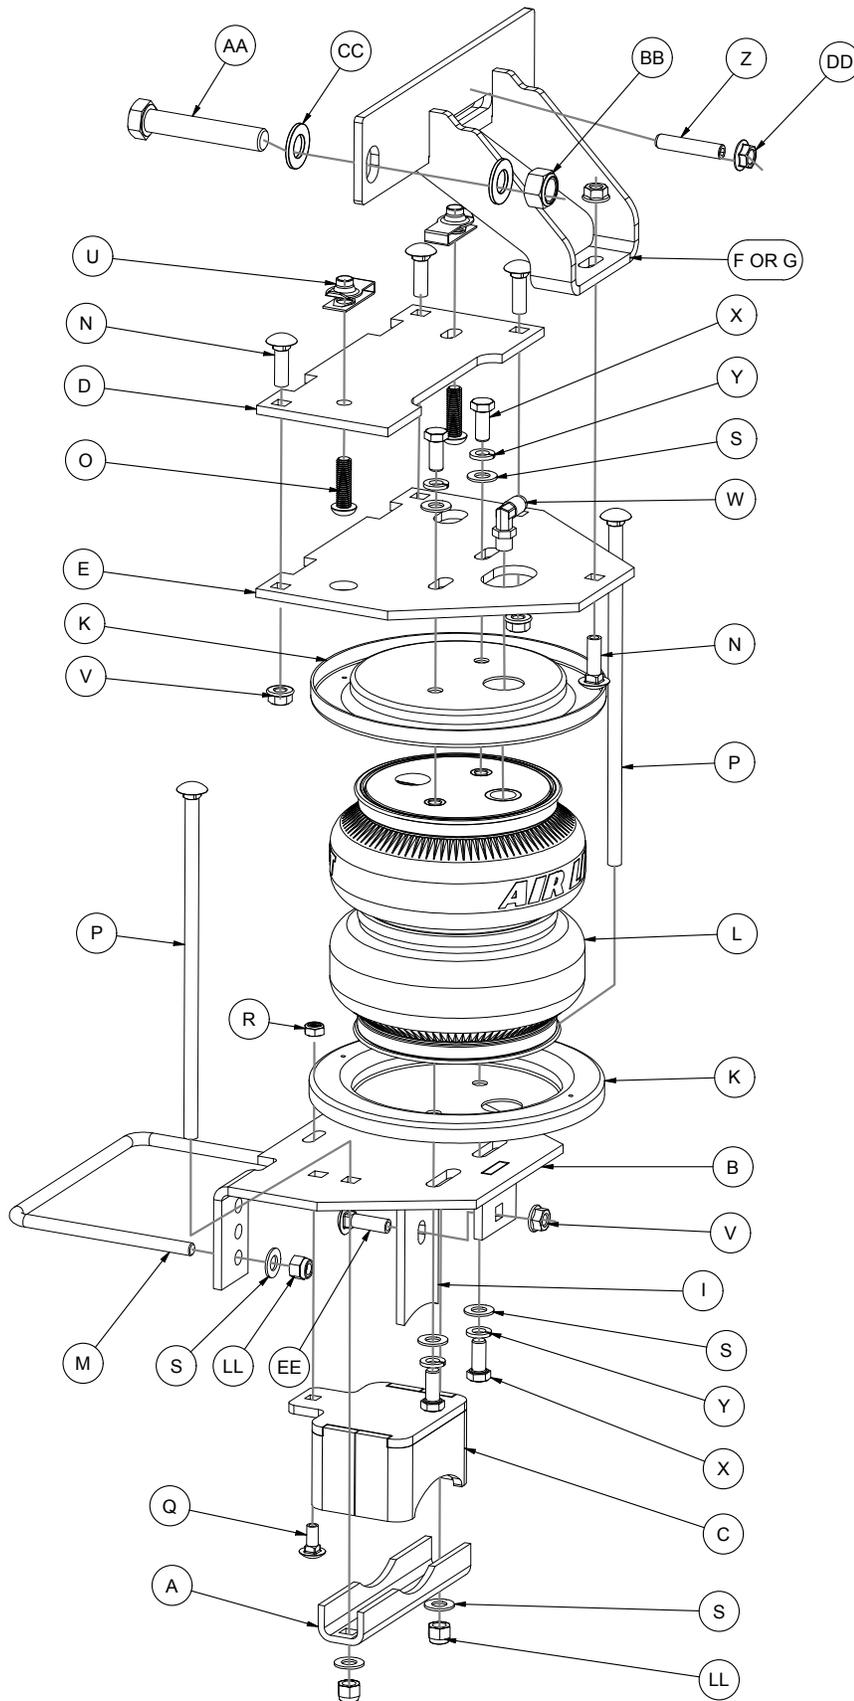

Fig. 1
* These parts are not shown in the System Overview (Fig. 1).